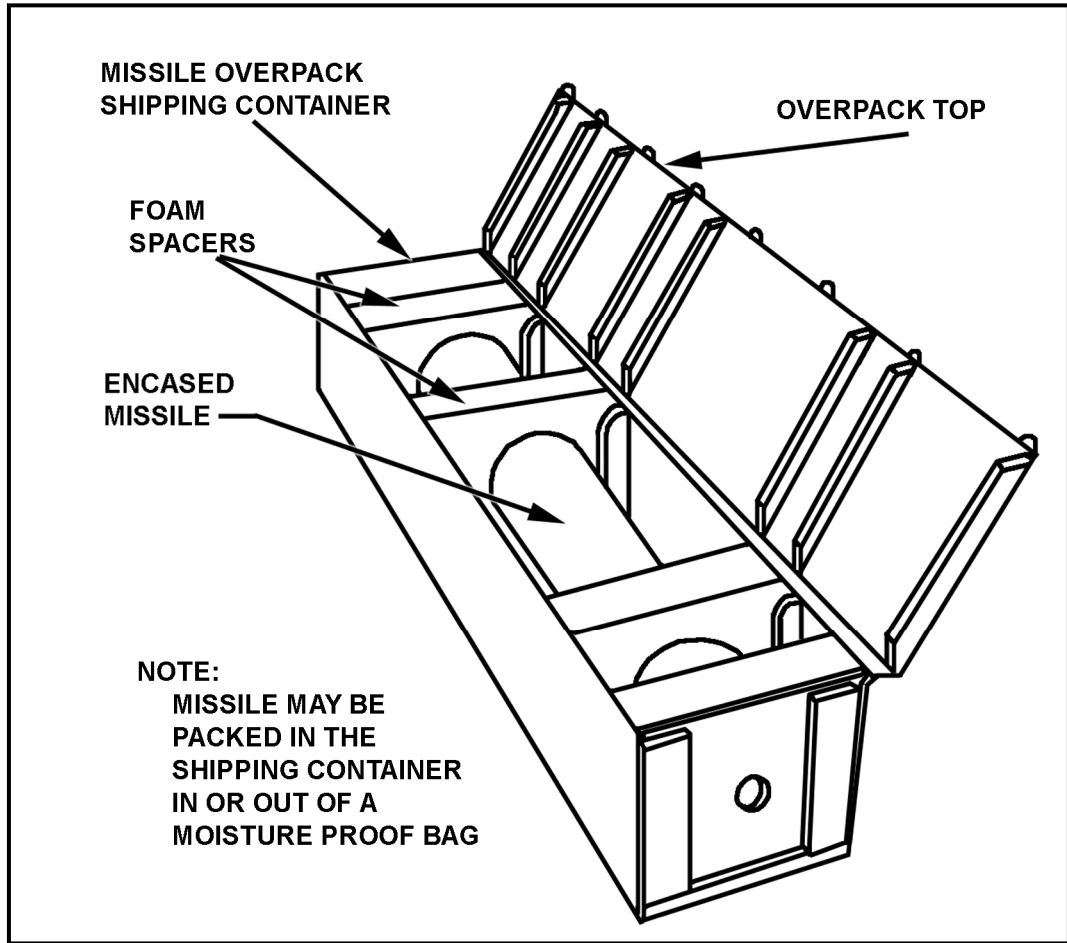

Figure 1-27. Encased missile in wooden overpack shipping container.
c. **Overpack Data.** The TOW encased missile is normally shipped and stored in a wooden overpack to protect it from transportation shocks. (Data for the overpack is included in Table 1-5.) The overpack contains the encased missile and padding around the missile. The launch container is part of the encased missile and provides protection for it. Take care in handling the encased missile (Figure 1-27).